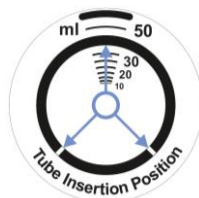

Figure 3.
- Tube positioning in the tube socket must be as follows: The volumes mark of the TPP tube must be between and opposite to the two markings on the rotor (figure 3); this position enables the light from the laser to be transmitted without disruption by different marks presented on the tubes outer surface.